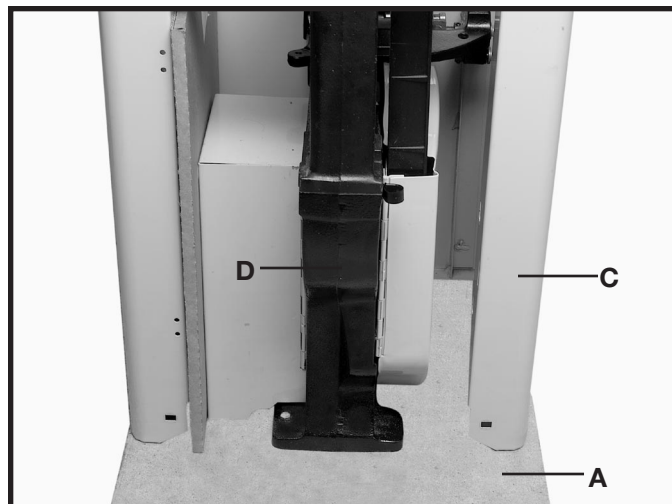

Fig. 3
3. Remove the bolts that attach the stand (C) Fig. 3, and the saw (D) to the the packing skid (A) with a 3/8" wrench.